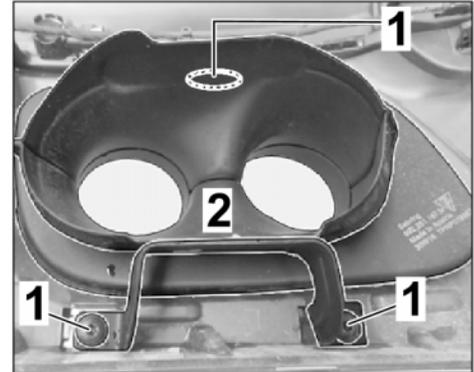

Figure 8
- 3.1.1 Remove tailpipe cover trim frame (left ⇒ *Figure 8/ right*).